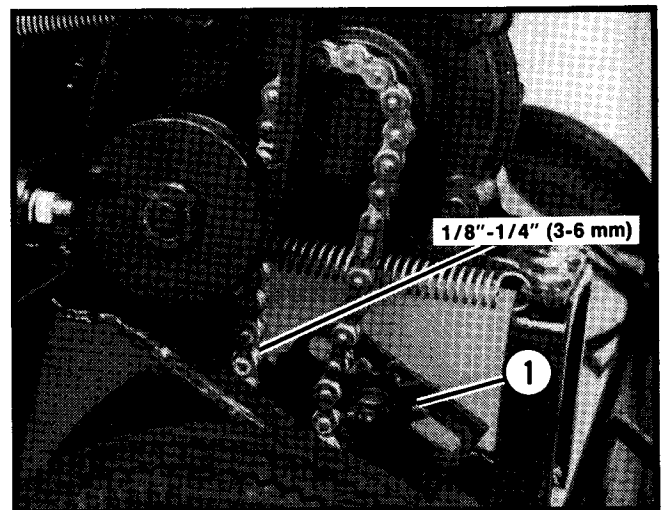

Figure 11. Chain Tension
5. Tighten the chain by adjusting the idler sprocket until there is only 1/8 to 1/4" (3 – 6 mm) movement in the chain opposite the idler (See Figure 11). Tighten the idler sprocket hardware.